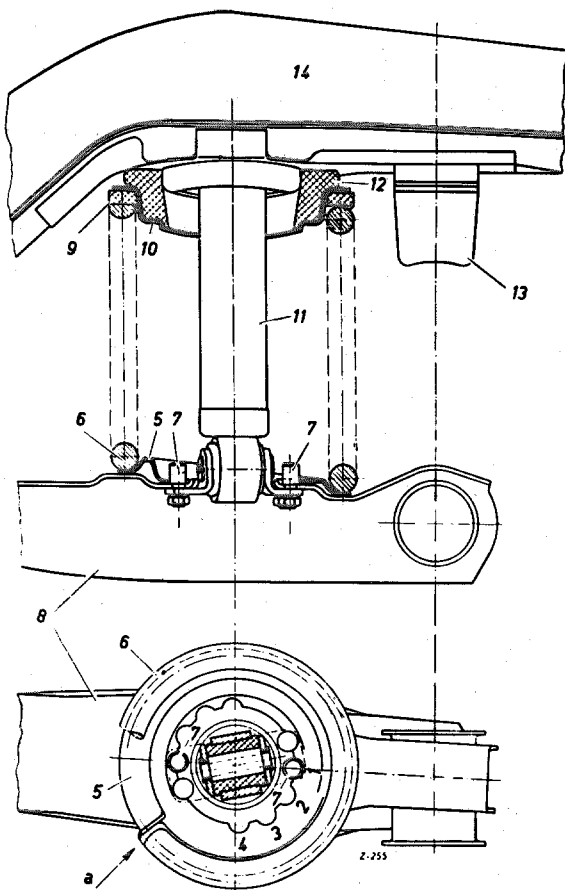

Fig. 40—3/3
Care must be taken to ensure that, when the car is in normally loaded condition, the camber never reaches a greater negative value than  $-4^{\circ}$  since otherwise the upward spring deflection is too small and moreover there arises the danger of increased wear at the inside shoulder of the tire. Before the measurements are taken, the rubber buffers must be checked to ensure that they are in perfect condition. The camber of the rear wheels is adjusted by turning the spring plate (5) (Fig. 40—3/3). The spring plate can be turned to four notch positions; turning the spring plate one further notch causes an alteration of wheel camber of approx.  $0^{\circ} 10'$ . If it is not possible to adjust the camber sufficiently by turning the spring plate (5) an attempt may be made to adjust the camber to the specified value by adding or removing compensating rubber rings (9). (For further details see Job No. 32—5).